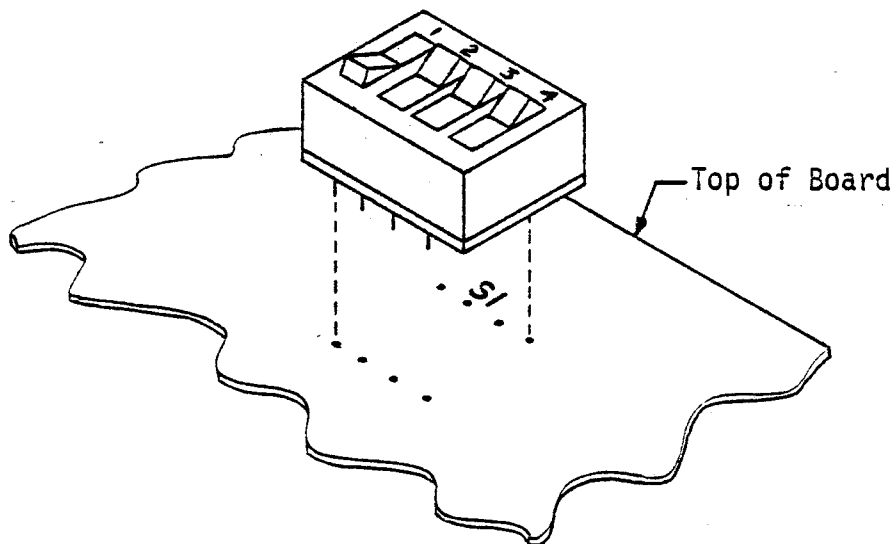

Figure 5-15a. Switch Orientation
5-18. Switch Installation (Figures 5-15a and 5-15)
2. Orient the switch so that the numbers "1,2,3,4" are towards the top of the board, as shown in Figure 5-15a.